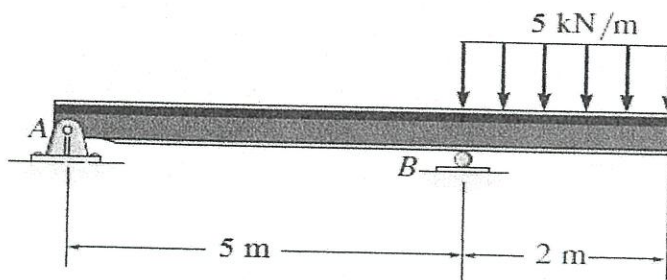

Figure Q3(b)
- (b) The overhanging beam in **Figure Q3(b)** is subjected to the uniformly distributed loading of 5 kN/m over its 2 m length.